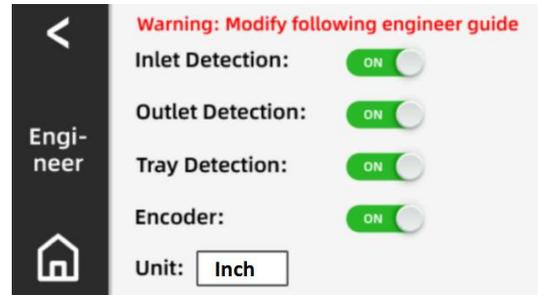

Figure 9
1) Long-press the Version at the top right corner of home screen for more than 5 seconds,access into Engineer Interface. (Figure 9)